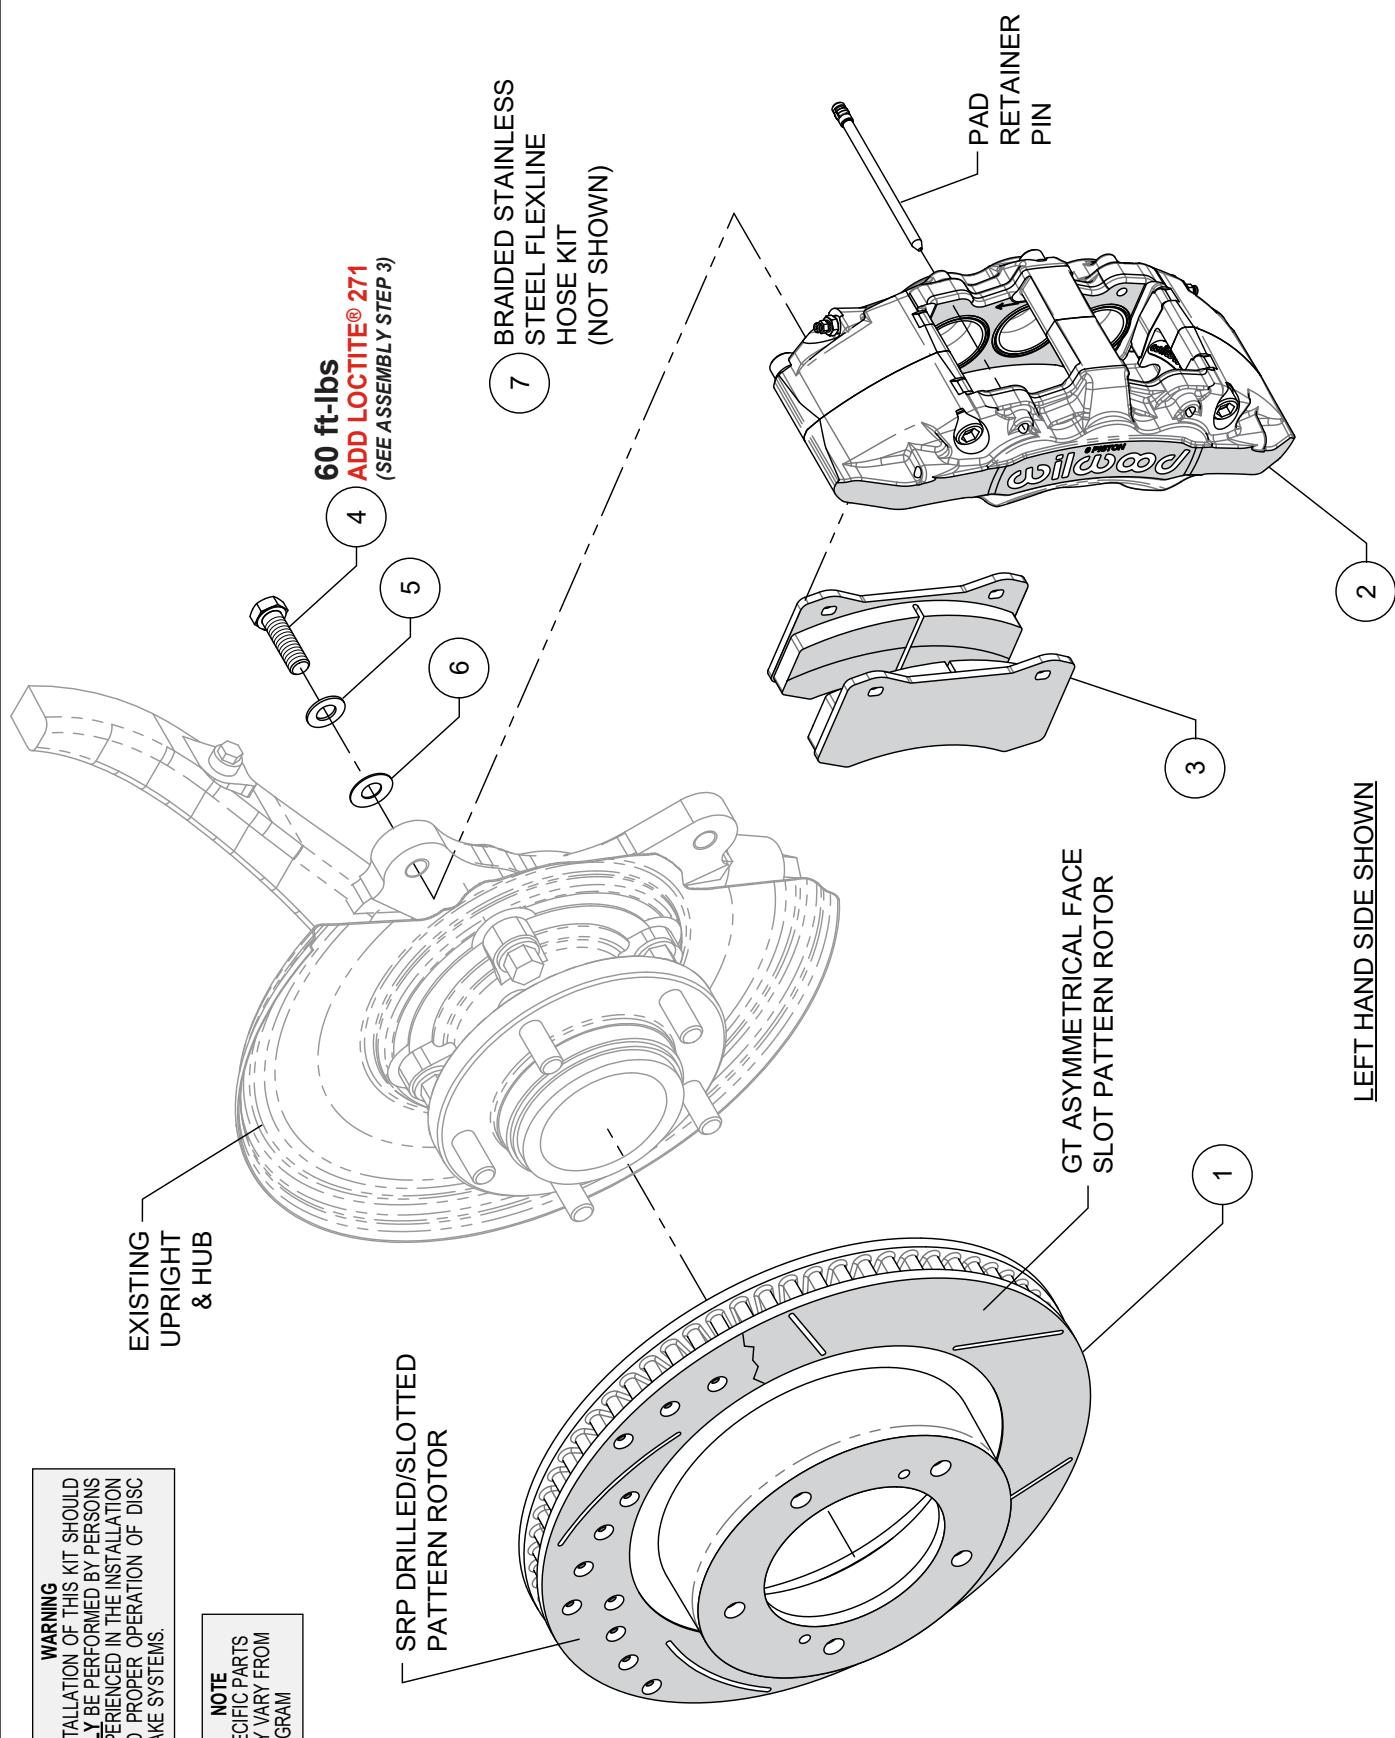

Figure 1. Typical Installation Configuration
**NOTE:** Numbers in parenthesis refer to the parts list and Figure 1 on the preceding pages.
**STEP 1** Slide the rotor (1) onto the hub. **NOTE:** The rotor must fit flush against the hub flange or excessive rotor run out may result. Install three lug nuts (finger tight) to keep the hat/rotor assembly in place while continuing with the installation, Photo 1.
**STEP 2** Remove the two pad retaining pins from the caliper (2), Figure 1. Insert the brake pads (3) into the caliper from the bottom, with the friction material facing the rotor, as shown in Photo 2. Secure the brake pads in place with the pad retaining pins, Photo 3 and Figure 1. **CAUTION:** Ensure pad retaining pins are completely engaged into caliper. It is recommended to use a small flat punch and hammer to tap the pins in until they are fully seated.
**STEP 3** **NOTE:** This kit contains distinct right and left hand calipers that must be mounted in a specific direction, as described below. Ensure that the caliper is mounted so the largest pistons are at the rotor exit end of the caliper, in relation to the forward direction of the rotor. Mount the caliper (2) onto the OEM caliper mounting bosses of upright using bolts (4), and washers (5). Add one shim (6), between washer and spindle to prevent the end of the bolt from contacting the rotor face as shown in Figure 1. Apply red Loctite® 271 to bolt threads, and torque to value shown in Figure 1.
**STEP 5** Attach brake line to caliper. **NOTE:** OEM rubber brake hoses generally cannot be adapted to Wilwood calipers. Install Wilwood's braided stainless steel flexline hose kit (7), p/n 220-15888, included with this kit. The caliper inlet fitting is a 1/8-27 NPT. Use the included steel adapter fitting at the caliper (use PTFE tape on the pipe threads of adapter fitting for proper sealing to caliper). Note the final orientation of the caliper inlet adapter fitting as shown